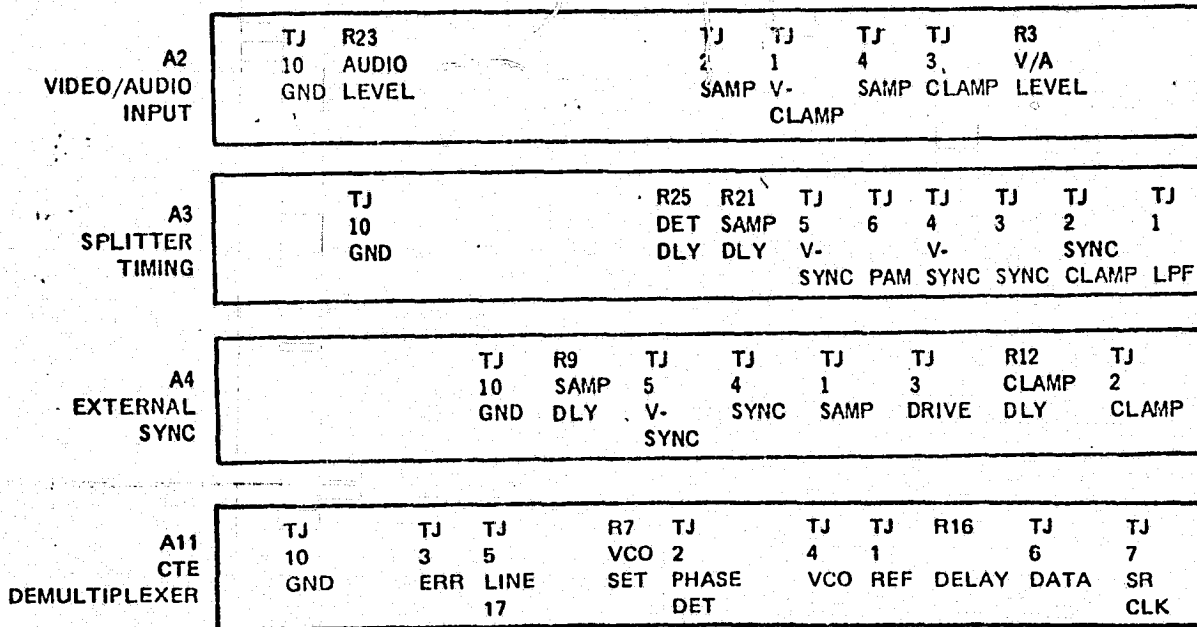

Figure 5-3. Module Nest Top View, Test Jacks and Setup Controls
1. Figure 5-3. Top View of Unit, Test Jacks and Setup Controls
(Refer to Figure 5-3 for location of module test jack and controls).
Location of module test jacks and controls, Figure 5-3.